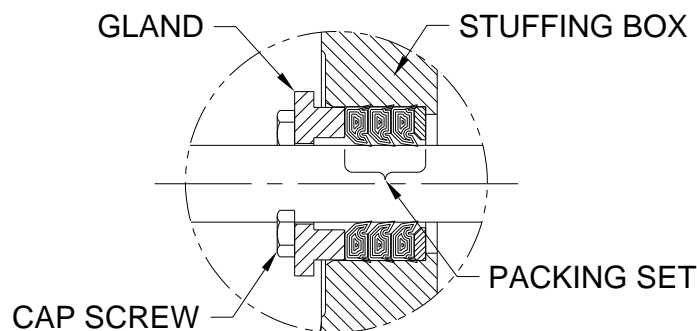

Figure 4
- d. Install one ring at a time. Ensure each ring is fully seated and in the correct orientation. See figure 4.